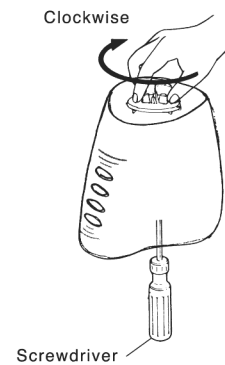

Fig. 4
## 2. Connector(Lower) -Fig.4
1. Remove the bottom plate and Body U .( Fig.4)